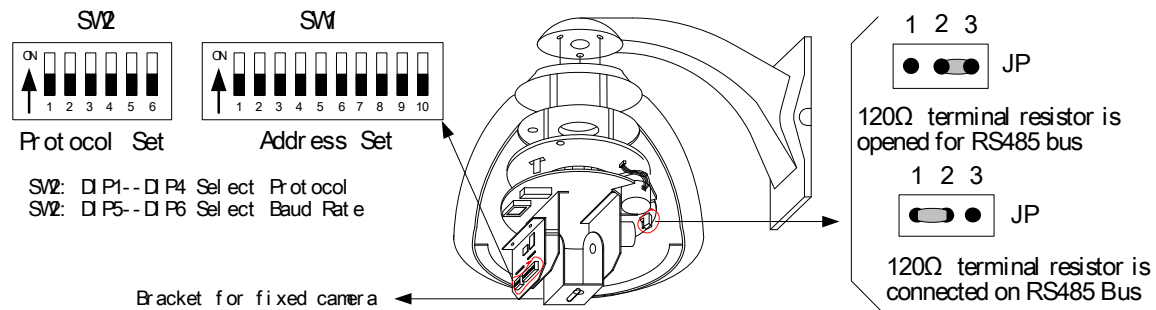

Figure 2
2. Setup of Coding Switch of Dome Camera. As shown in Figure 2, SW1 is used to set address of the dome camera from 1 – 1023. The ID-CODE from DIP-10 to DIP-1 are equivalent to a 10-bit binary digit. DIP-10 is MSB while DIP-1 is LSB. The state “ON” of each bit means 1 while “OFF” means 0. Following table shows states of coding switches of some addresses.
- 3. Setup of the Protocol and the Default Baud Rate.** As shown in Figure 2, SW2 is used to set the protocol of communication and the baud rate used by the dome camera. DIP-4 to DIP-1 of SW2 is used to select protocols and 16 different protocols can be selected in maximum. Following table shows states of coding switches of protocols selected by the dome camera
- 4. Setup of the Baud Rate of Communication.** As shown in Figure 2, SW2 is used to set the protocol of communication and the baud rate used by the dome camera. DIP-6 and DIP-5 of SW2 are used to select the baud rate of communication and 4 different baud rates can be selected in maximum. If the controller adopts non-standard baud rate, you can adjust it to be identical with that of the controller as per the following table.
- 5. Selection of the Terminal Resistor of the Dome Camera.** As shown in Figure 2, JP is the select switch of the 120 Ω terminal resistor on the bus RS485, on which only one terminal resistor of the dome camera at the farthest end can be connected, while the terminal resistors of other devices should be opened.
4. Based on the ID-CODE shown as Figure 2, set up the protocol used by the camera and the baud rate as per the state according to Table 1. Check the address of the camera to see if it is matched with that you need. If not, set the address of the dome camera at corresponding position as per Table 1.